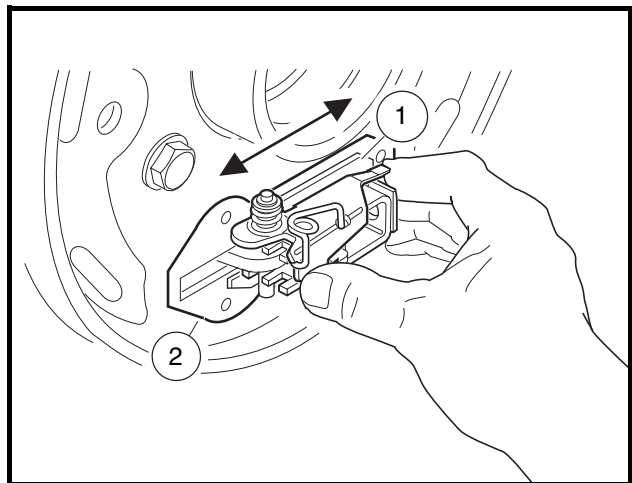

Figure 6-7 Lubricate Slide
3. Lubricate the slide (1) and slide plate (2) with dry moly lubricant (CCI P/N 1012151) on both sides of the backing plate. After lubricating, work the slide back and forth to ensure it slides smoothly and easily (**Figure 6-7, Page 6-3**). Reinstall rubber boot onto backing plate.